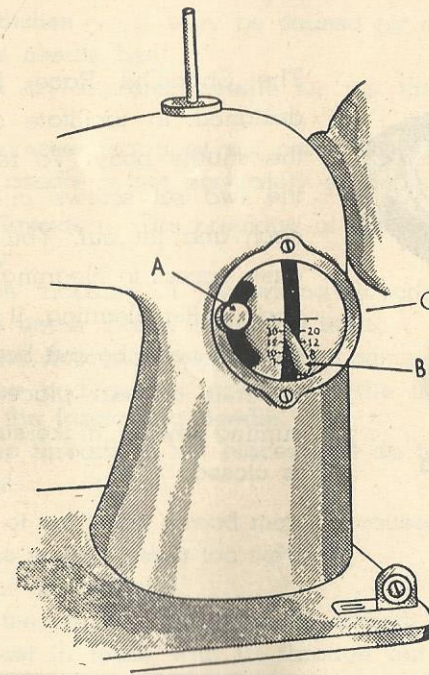

FIGURE 12
The stitch regulator lever, shown in figure 12, controls the stitch for both forward and reverse.
The length of the stitch is regulated by the stitch-regulator and thumb-screw in the slot in front of the arm Fig. 12 (A). Loosen the screw (A) and move regulator (B) downwards and the stitches will become longer. If the regulator is moved in the opposite direction (upwards) the stitches become shorter. After determining the correct position of the regulator, re-tighten the screw immediately so the position will not be altered.
Loosen the screw and move lever above center line, Fig. 12 (C). You can now adjust for desired length of reverse stitch. Then tighten the screw and it will lock the stitch. The machine now sews in reverse.